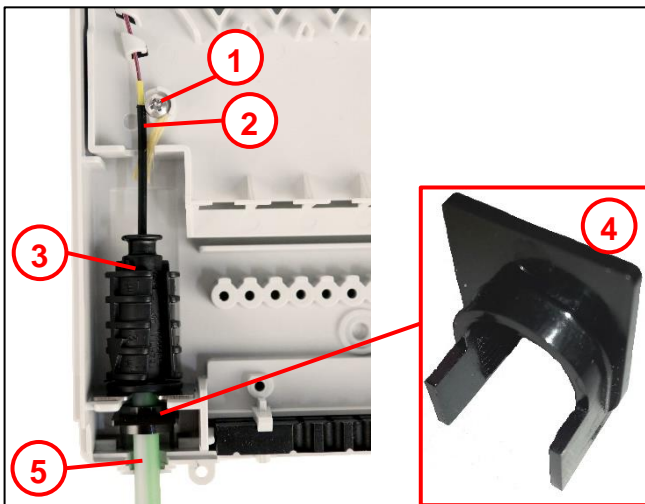

Fig. 5
- Cut the micropipe (5) to the appropriate length for the gas blocker (3) which is being used.
- Strip an appropriate length of the fibre optic cable (2).
- Insert the retainer clip (4) for fixing the micropipe in place into the recess provided for this purpose. **Note:** Spacer struts (Fig. 5) should face towards opening.
- Fasten aramid yarn to the housing using the notched screw provided (1).